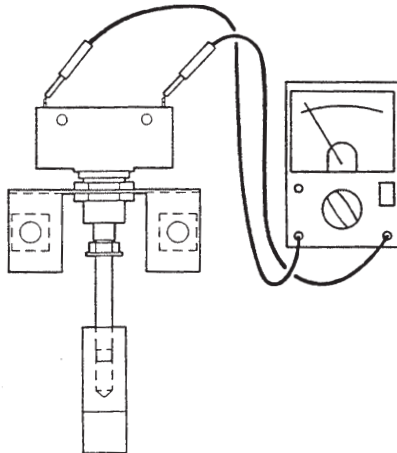

Figure 57. Interlock Switch Assembly
- Use a V.O.M. (Volt Ohmmeter) to check the operation of the switch when the front door is installed (Figure 57).